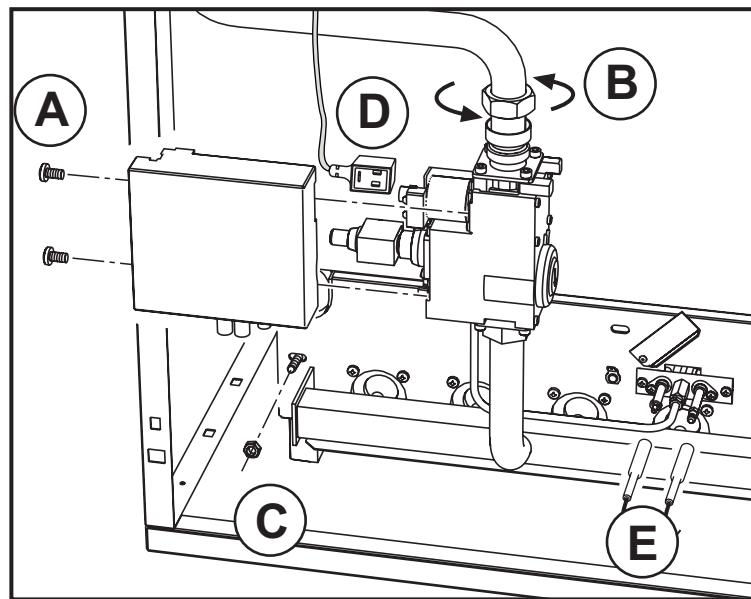
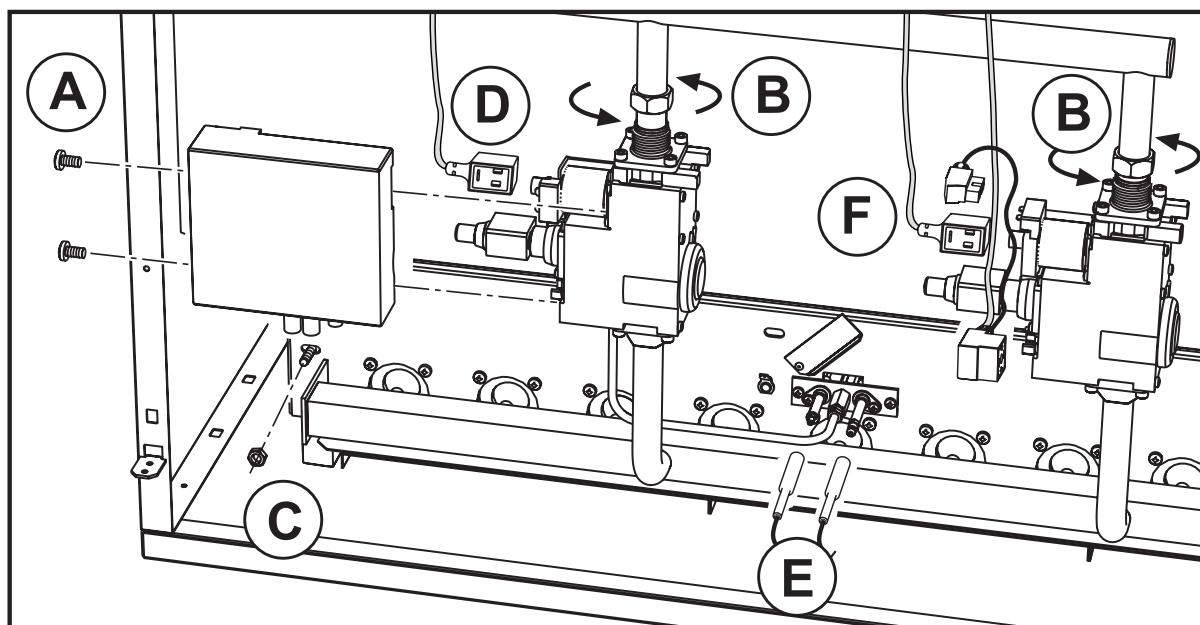

fig. 9 - Models 67 - 77 - 87
fig. 10 - Models 97- 107
- Undo the two screws (A) securing the electronic flame controller to the gas valve (fig. 9 and 10) and remove the valve. Remove the connector (D - fig. 9 and 10) by undoing the screw securing kit.
- For GASTER N 97 and 107 AW models which have 2 gas valves, also undo the 2 screws securing 2 electrical connectors (F) that feed the second valve and remove them from the valve.
- Undo the nut securing the gas supply pipe ahead of the gas valve (fig. 9). For models 97 and 107, undo the 2 nuts (fig. 10)
- Undo the two nuts securing the combustion chamber door to the cast iron elements of the boiler (fig. 9 and 10)